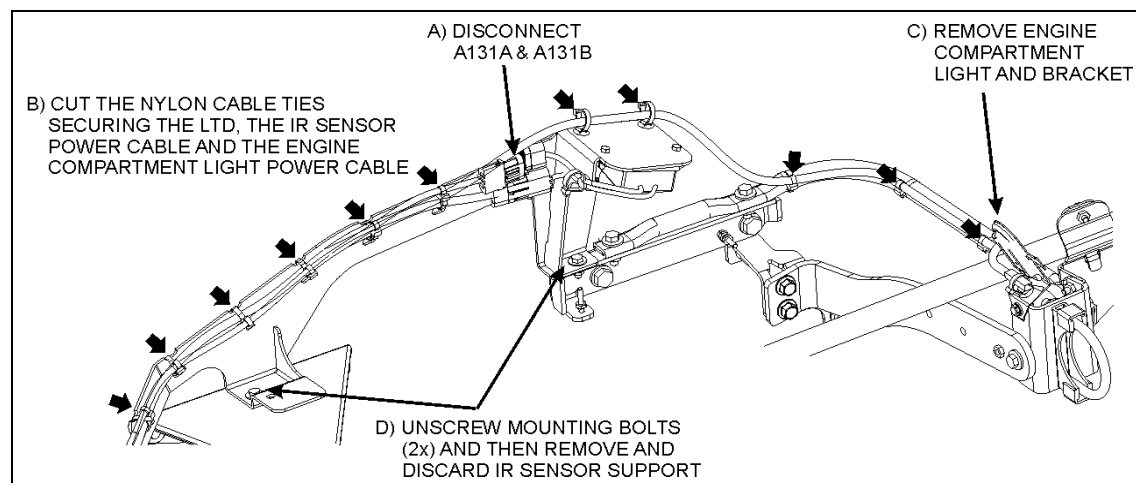

FIGURE 12
- 2) Disconnect A131A & A131B at the IR sensor (A, FIGURE 12).
- 3) Cut the nylon cable ties along the support and cut the nylon cable ties securing the engine compartment light cable up to the light (B, FIGURE 12).
- 4) Remove and discard the engine compartment light and bracket (C, FIGURE 12).
- 5) Remove and discard the IR sensor support (D, FIGURE 12).